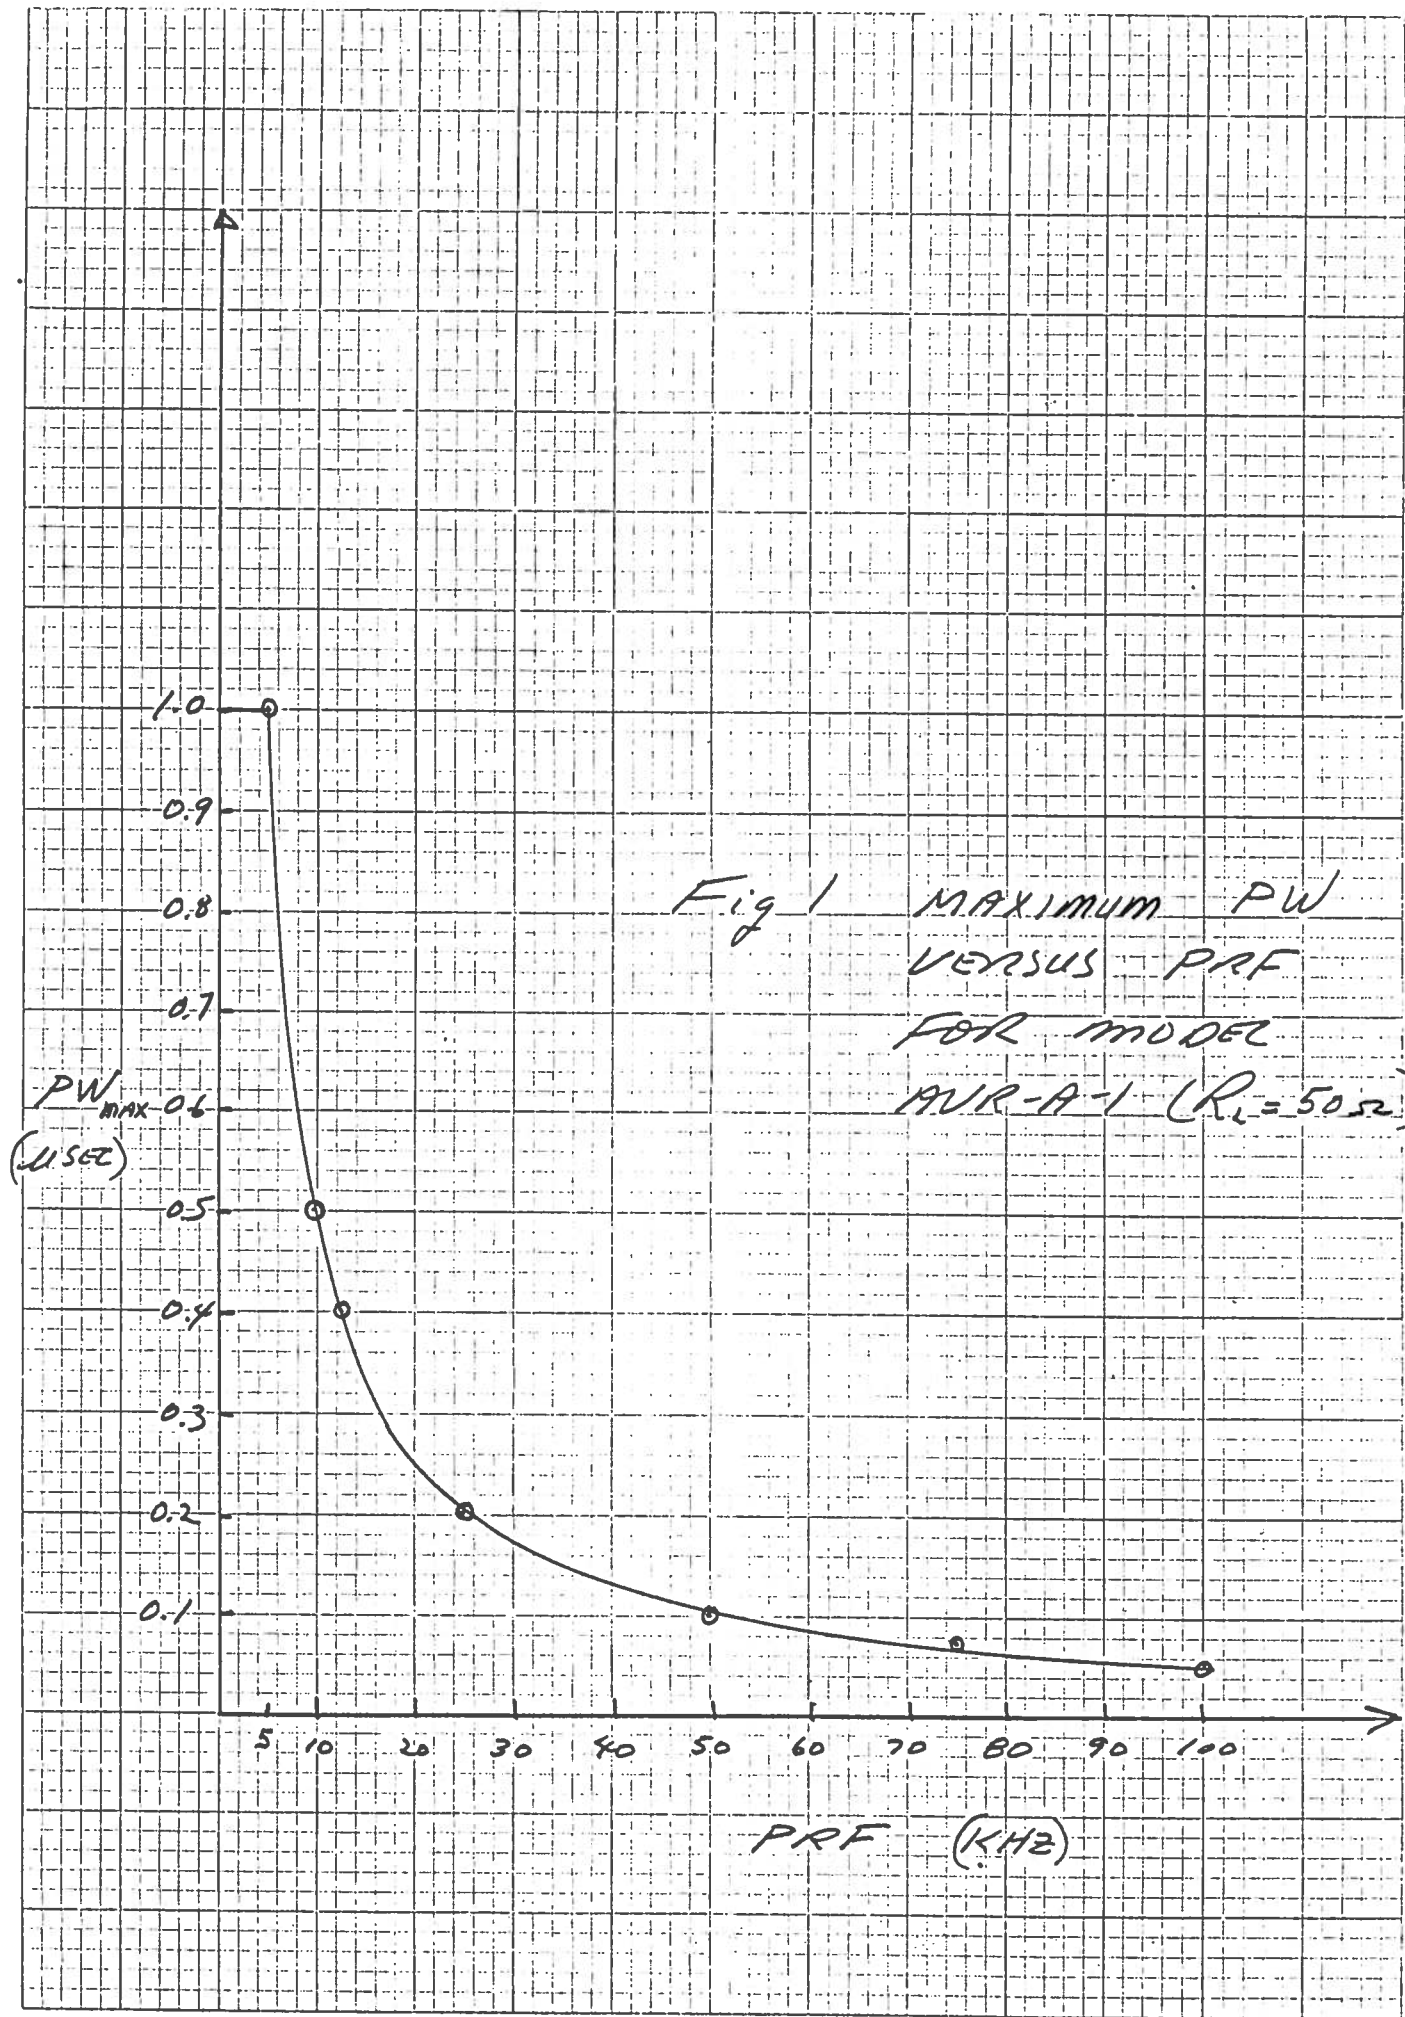

Fig 1 MAXIMUM PW
- 4) Care should be taken to not operate with an input pulse width greater than 1 usec as prolonged operation in this mode may very well result in equipment failure. Also, the maximum PRF of 100 KHz must not be exceeded for the same reason. Under simultaneous conditions of wide pulse width, high PRF and high load current, the bias voltage applied to the output power stage decreases and as a result the attainable output peak voltage decreases to less than 200 volts, and in severe cases, the output stage of the unit may be damaged. The maximum allowable PW as a function of PRF for a 50 ohm load is shown in Fig. 1.